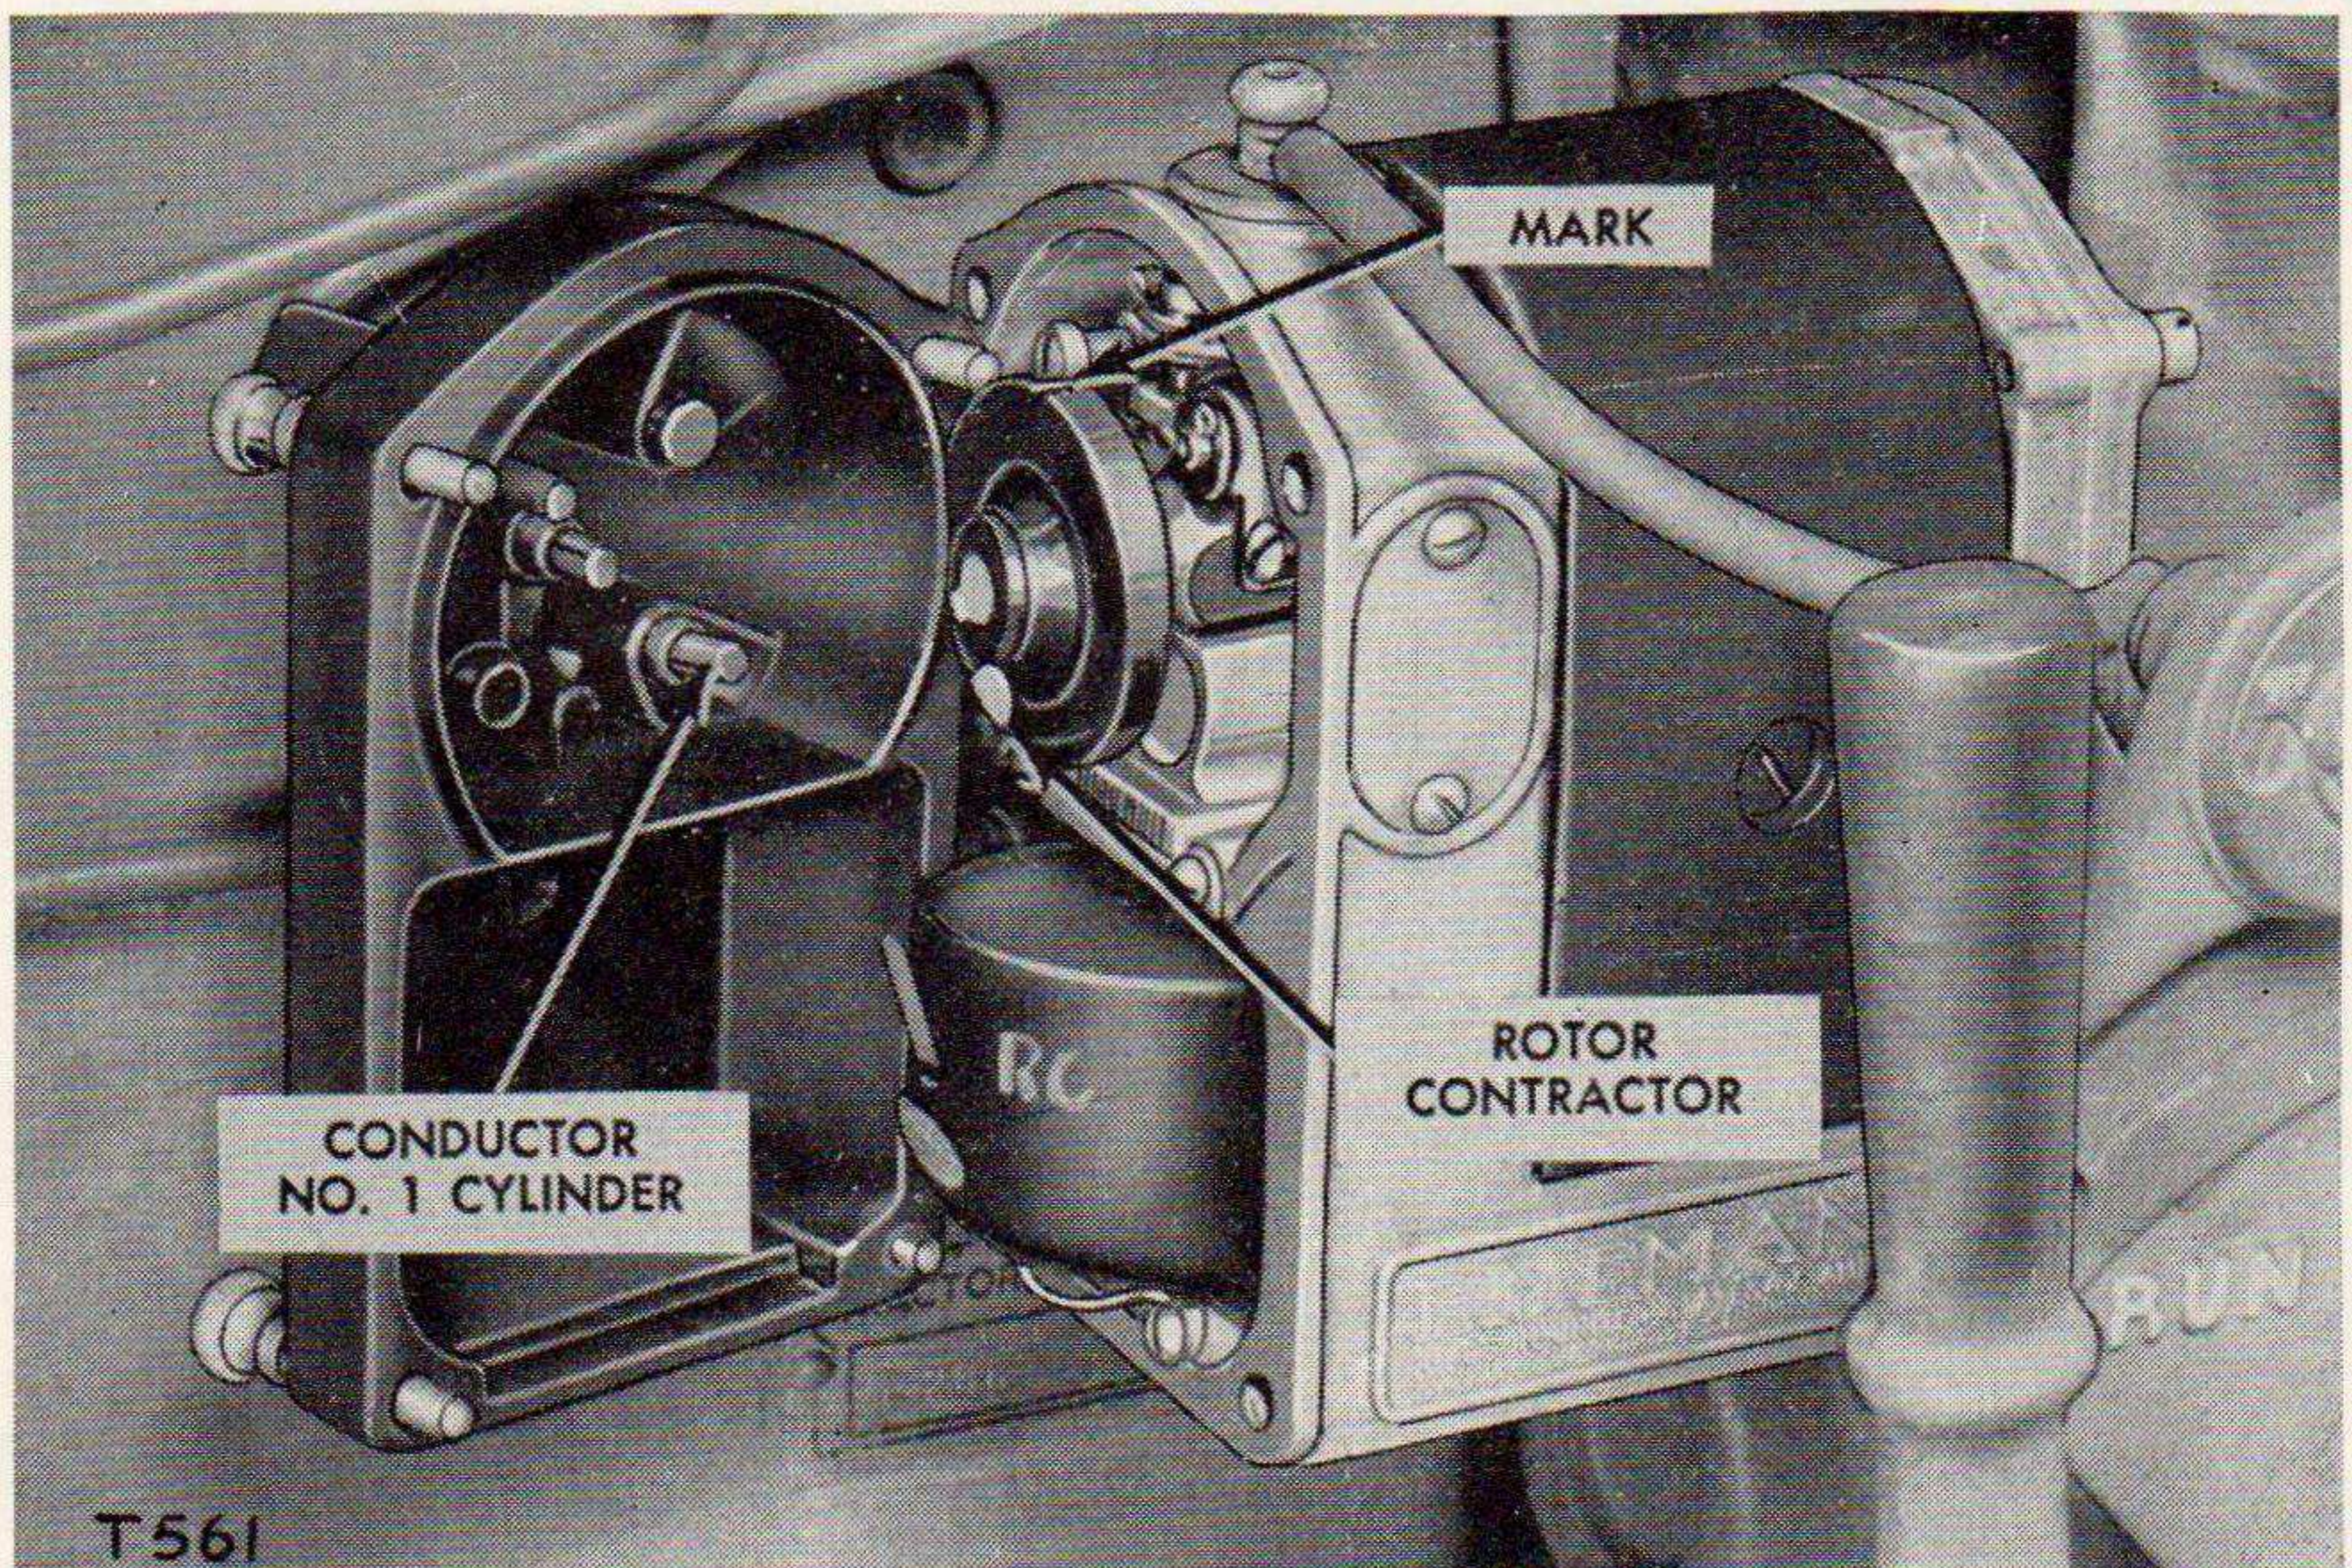

Figure 57. Checking timing, magneto in place.
- (3) In this position the distributor rotor contact should be in line with the conductor which is connected by wire to the spark plug of No. 1 cylinder. There is also a mark across the edge of the rotor which should be on top. (See fig. 57.)